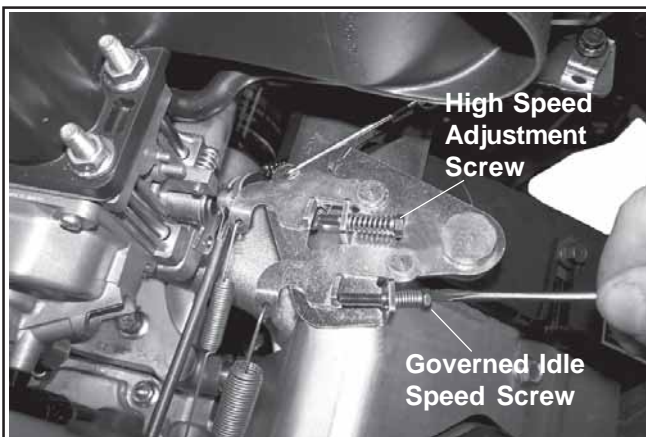

Figure 26. Adjusting Governed Idle Speed Screw.
2. Release the governor lever and check that the throttle lever is in the **idle** position. Turn the governed idle (outer) adjustment screw on main control bracket to obtain the equipment manufacturer's recommended idle speed (1400-1800 RPM). See Figure 26.